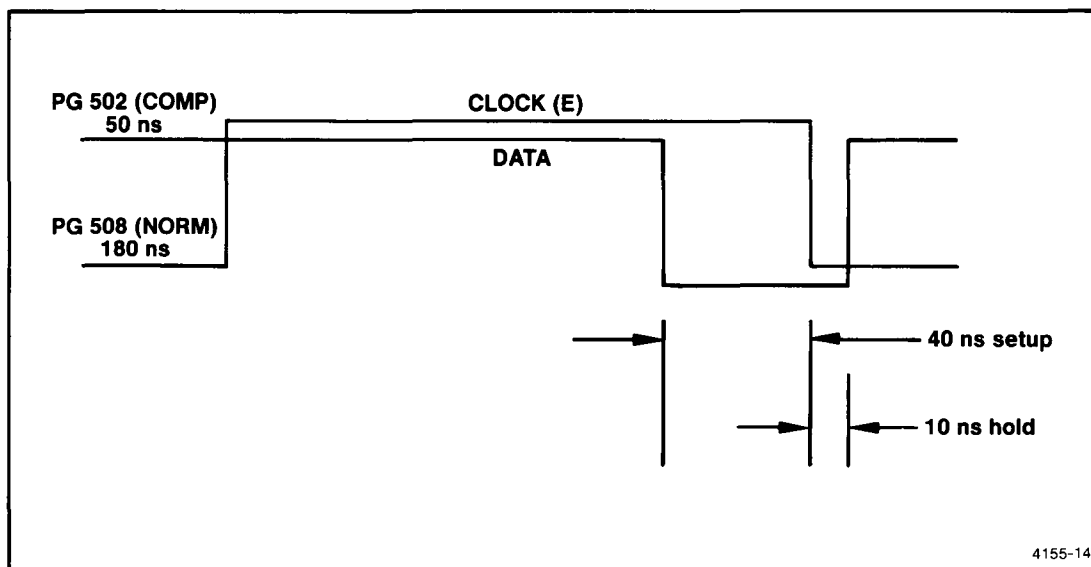

Figure 5-4B. Data lines DI0-DI7 setup and hold (complemented).
29. Place the PG 502 Complement to the COMPLEMENT position and adjust the oscilloscope so the pulses are on the screen. Verify the pulse out of the PG 502 is 40 ns before and 10 ns after the trailing edges of the clock pulse (PG 508). Refer to Figure 5-4B.
35. Refer to Figure 5-4B.